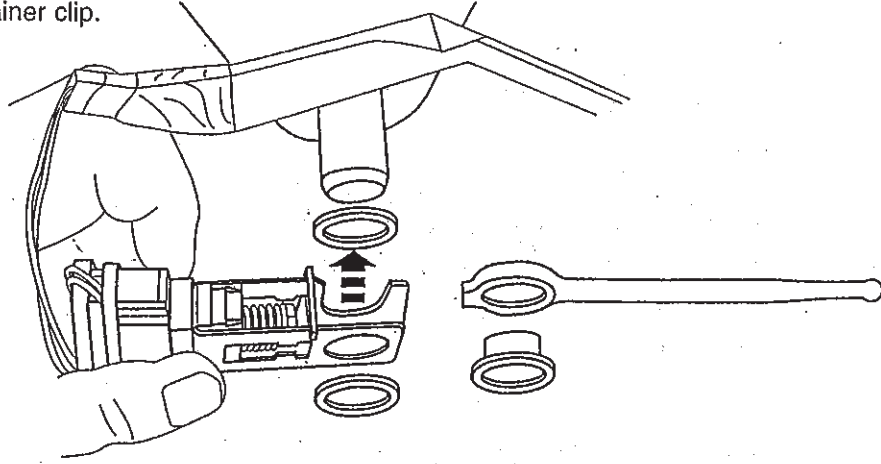

FIGURE 6
11. Install the new stop lamp switch as follows (refer to Figure 6):
- b. Place one (1) new plastic washer in the brake pedal arm post, then connect the pushrod to the post.